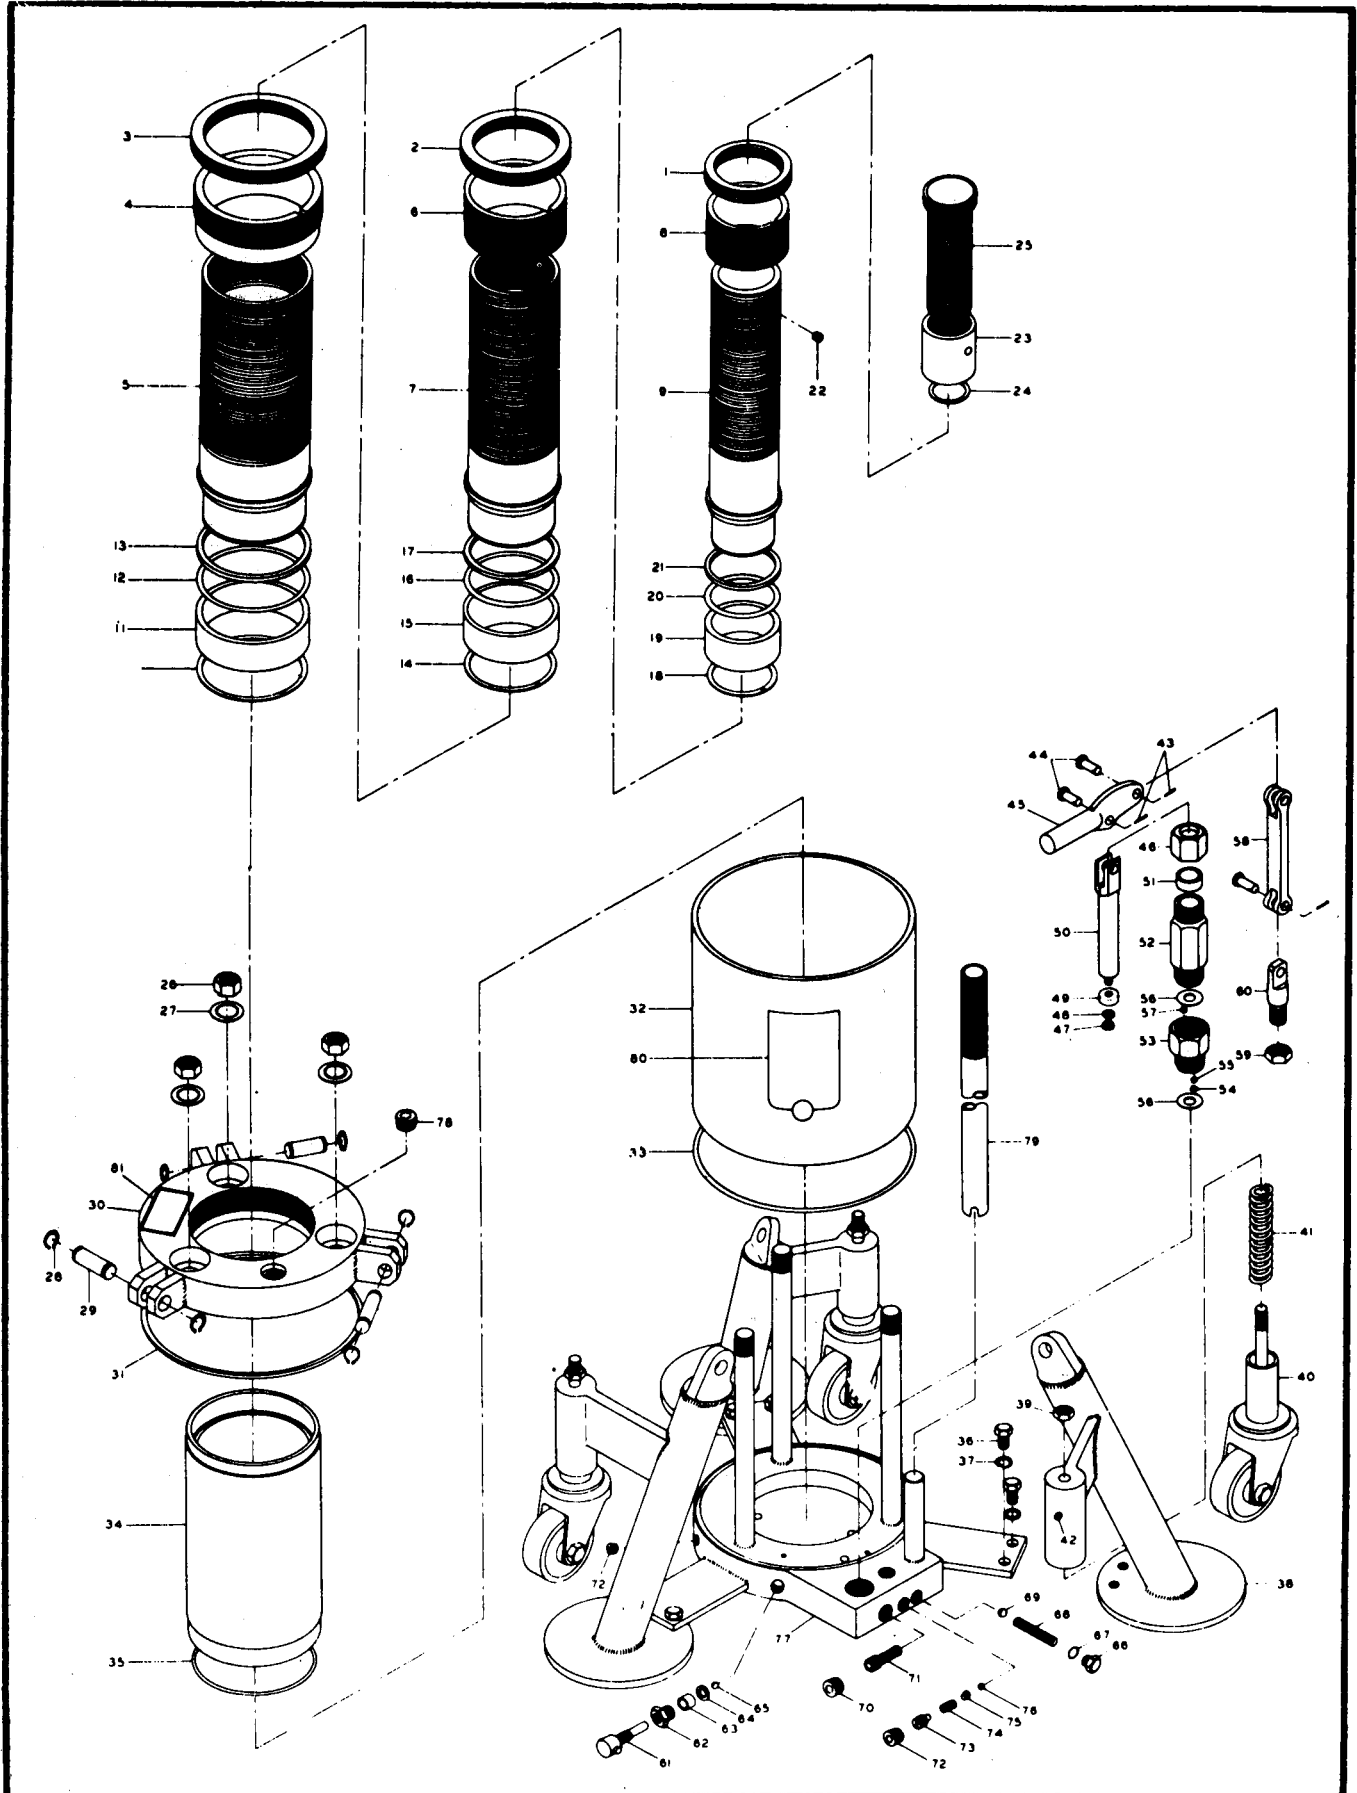

Figure 1. Hydro-Mechanical Aviation Jack, Single Stage Type.
4-2. To disassemble the Jack, following the index numbers in Fig. 1.
a. To disassemble the hydraulic cylinder assembly plungers (1-5), (1-7), and (1-9) you first remove plug (1-70) and screen (1-71) from base (1-77) and drain oil from the reservoir. Then remove locknuts (1-1), (1-2), and (1-3) next, unscrew stop ring (1-4) from tripod head (1-30). After stop ring has been removed extend extension screw (1-25) and pull up. The plungers will rise out of cylinder (1-34). It is not necessary to remove stop rings (1-6) or (1-8) to pull plunger assembly. After plungers have been removed push plunger (1-9) from top thru plunger (1-7) and plunger (1-7) from top thru plunger (1-5). Inspect bore of plungers and cylinder for smoothness, wear, and scratches. Inspect "O" Rings (1-12), (1-16), and (1-20) for turned edges, cuts, and distortions. At the same time check (1-13), (1-17), and (1-21) Teflon back-up rings for turned edges, cuts, and distortions. Check bronze bearings (1-11), (1-15), and (1-19) for excessive wear. Should replacement of bearings, "Q" rings or Teflon backup-rings be required, remove retaining rings (1-10), (1-14) or (1-18) and bearings, "O" rings and Teflon back-up rings can be removed from plunger ends. Replace in reverse order as shown in Fig. 1. Extension screw (1-25) does not have to be removed unless it is damaged. There is an "O" ring (1-35) between cylinder (1-34) and base (1-77) and unless cylinder has to be replaced do not remove.
6-1. Reassemble in, the reverse order of disassembly as outlined in Section IV and Figure 1.